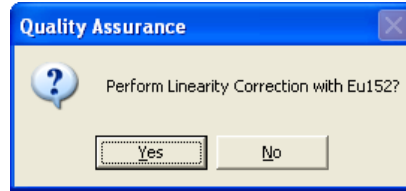

Figure 5-6
8. Next, the screen appears as shown in Figure 5-6, prompting you to perform Linearity Correction using Eu152. This step, though optional, is highly recommended for fine-tuning your system.